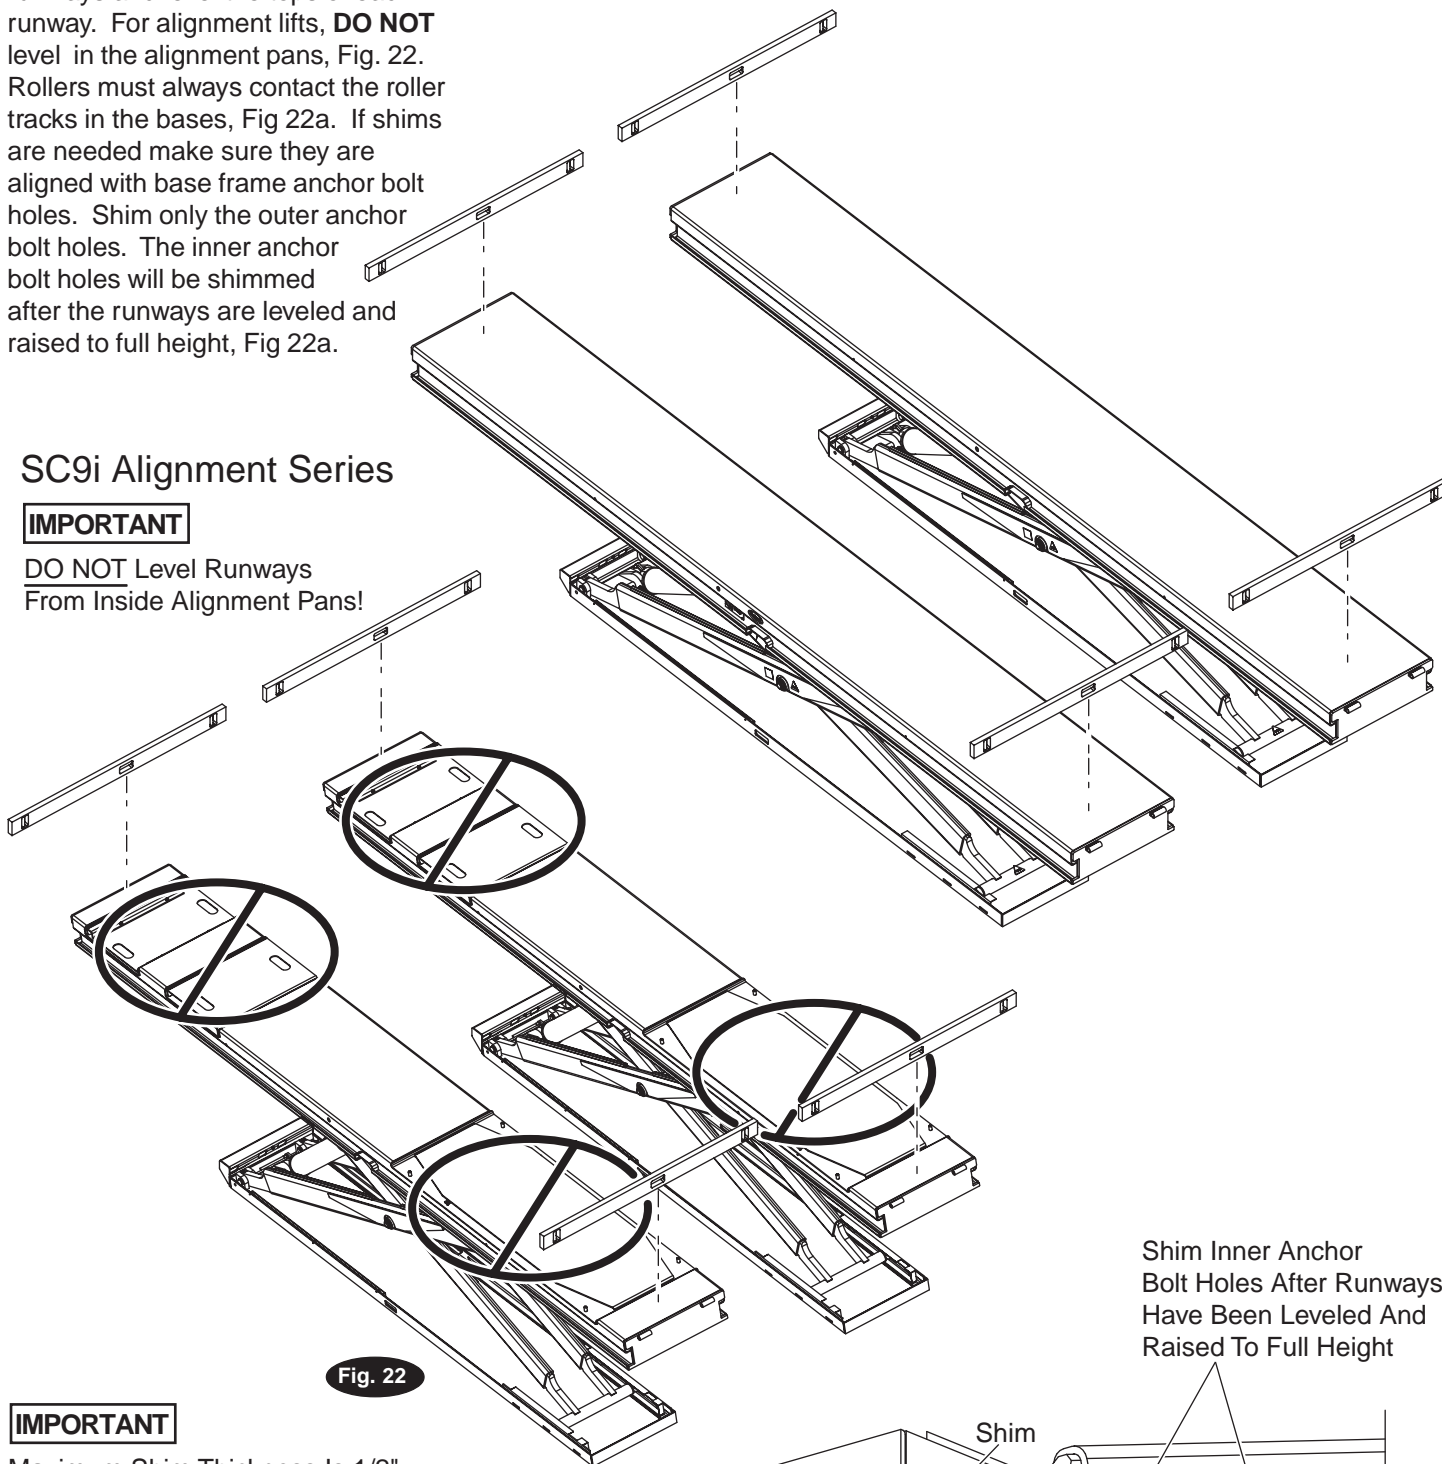
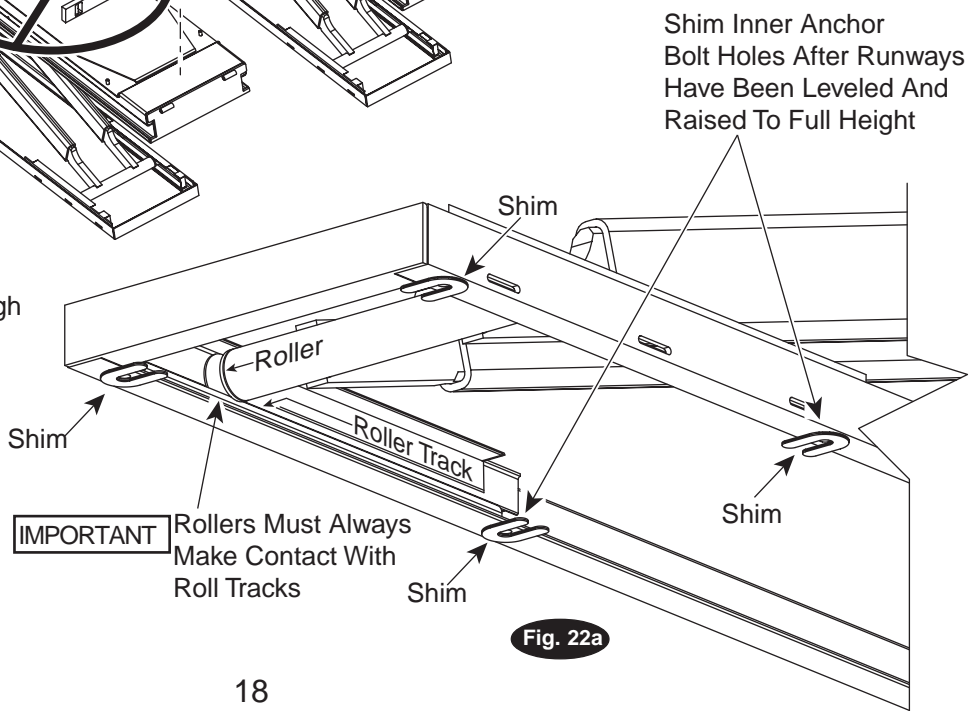

Fig. 22
Fig. 22a
B.) Place a level at each end of the runways and level the tops of each runway. For alignment lifts, **DO NOT** level in the alignment pans, Fig. 22. Rollers must always contact the roller tracks in the bases, Fig 22a. If shims are needed make sure they are aligned with base frame anchor bolt holes. Shim only the outer anchor bolt holes. The inner anchor bolt holes will be shimmed after the runways are leveled and raised to full height, Fig 22a.
Inner Anchor Bolt Holes Are Located, Fig. 22a.